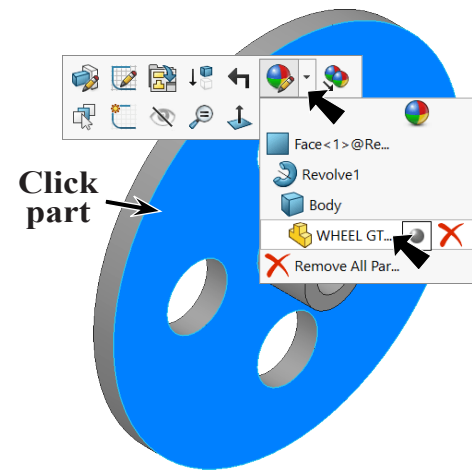

Fig. 24
Step 1. Click the part, click **Appearance Callout**  on the context toolbar and click **WHEEL GT-F** , Fig. 24.